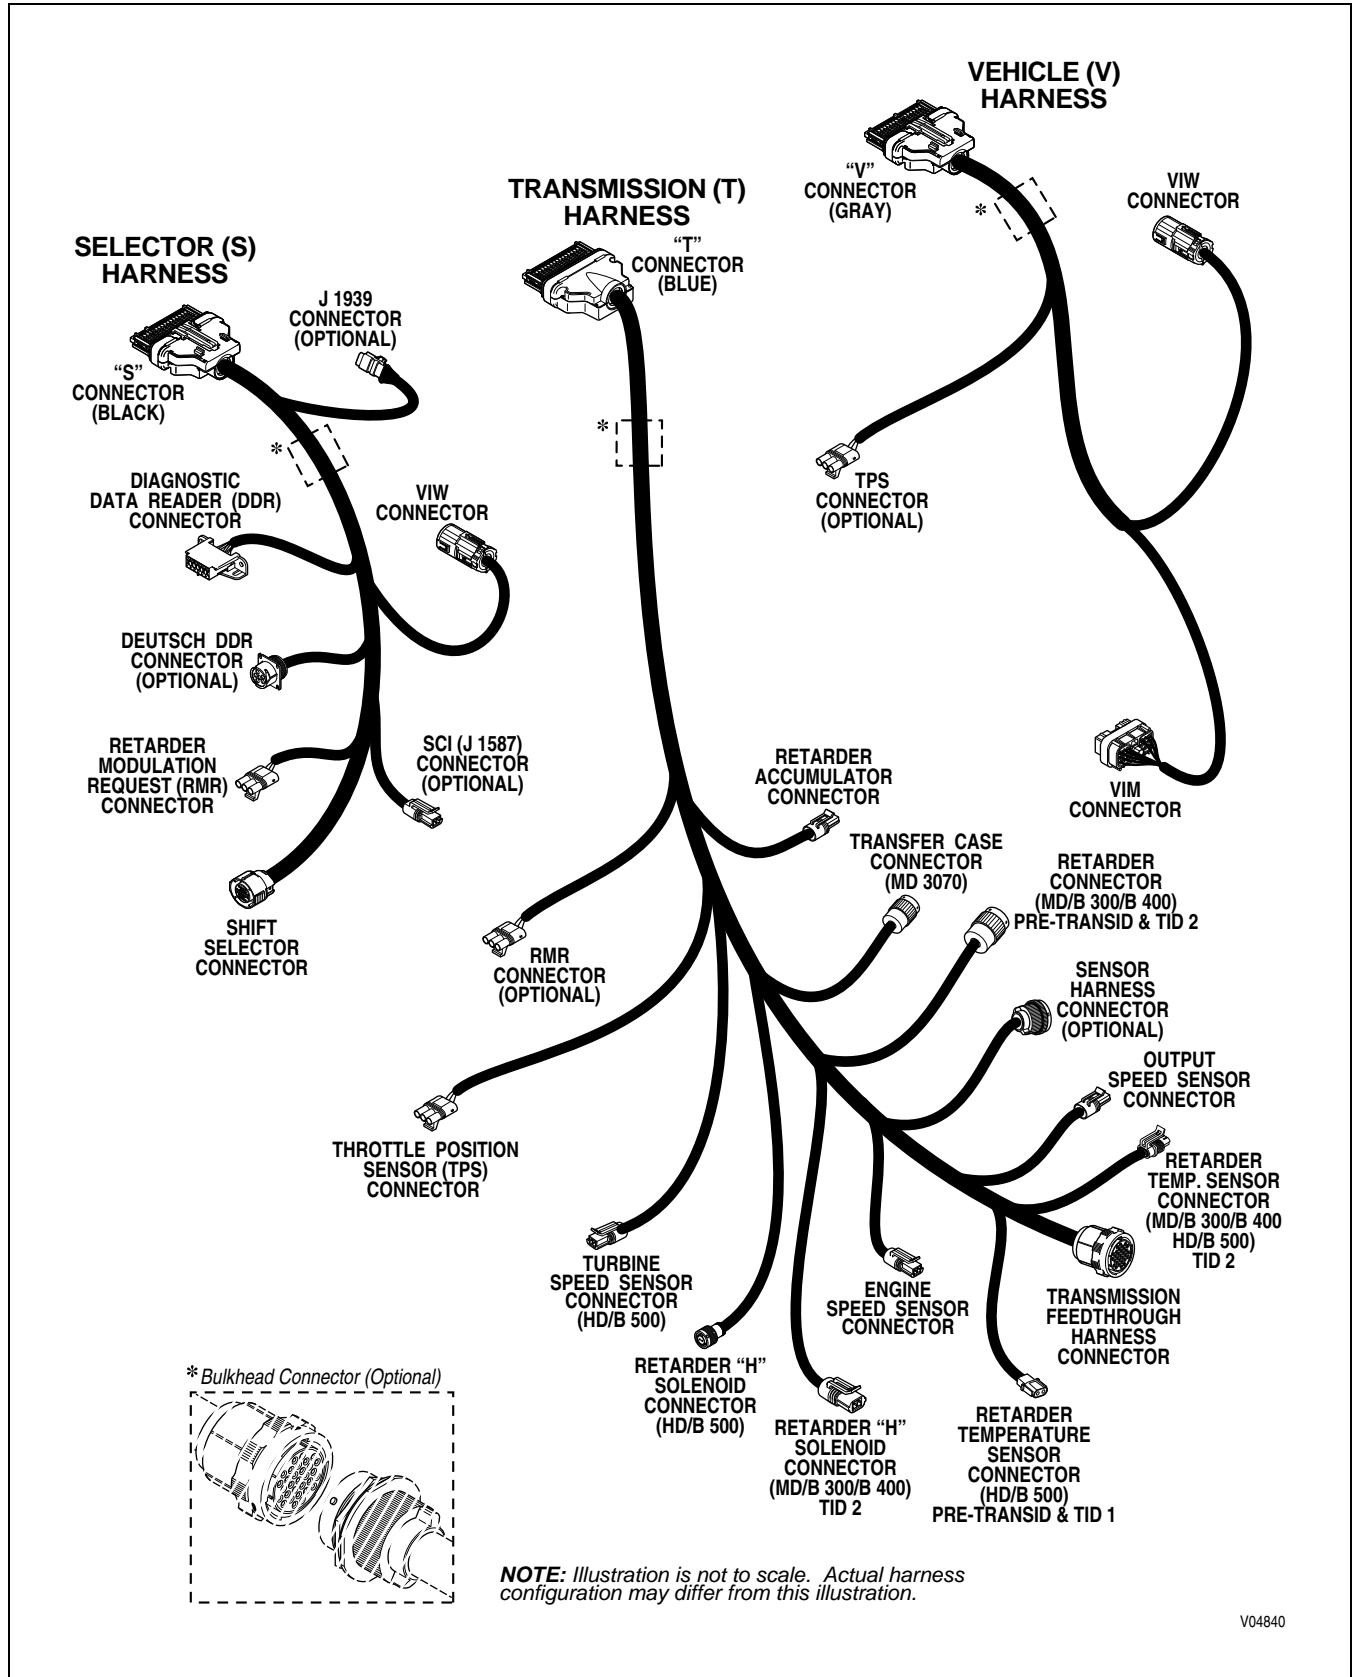

Figure 1-7. WTEC III External Wiring Harnesses
A. External Wiring Harness (*Figure 1-7*)